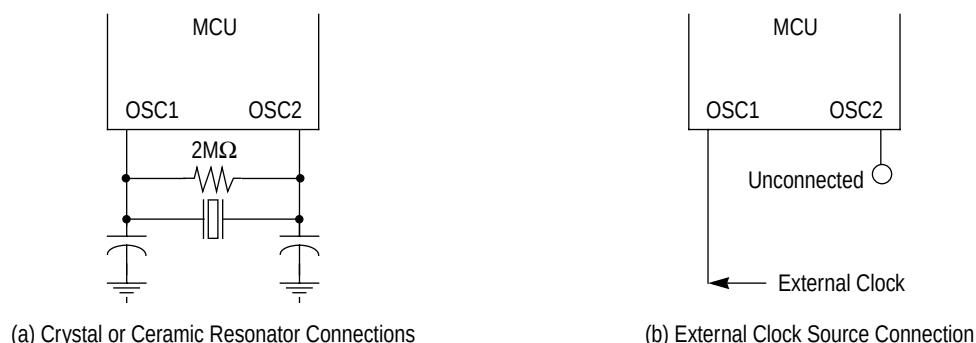

Figure 1-3. Oscillator Connections
1. A crystal as shown in **Figure 1-3(a)**
2. A ceramic resonator as shown in **Figure 1-3(a)**
3. An external clock signal as shown in **Figure 1-3(b)**
The circuit in **Figure 1-3(a)** shows a typical oscillator circuit for an AT-cut, parallel resonant crystal. The crystal manufacturer's recommendations should be followed, as the crystal parameters determine the external component values required to provide maximum stability and reliable start-up. The load capacitance values used in the oscillator circuit design should include all stray capacitances. The crystal and components should be mounted as close as possible to the pins for start-up stabilization and to minimize output distortion. An internal start-up resistor of approximately 2M Ω is provided between OSC1 and OSC2 for the crystal type oscillator as a mask option.
In cost-sensitive applications, a ceramic resonator can be used in place of the crystal. The circuit in **Figure 1-3(a)** can be used for a ceramic resonator. The resonator manufacturer's recommendations should be followed, as the resonator parameters determine the external component values required for maximum stability and reliable starting. The load capacitance values used in the oscillator circuit design should include all stray capacitances. The ceramic resonator and components should be mounted as close as possible to the pins for start-up stabilization and to minimize output distortion. An internal start-up resistor of approximately 2 M Ω is provided between OSC1 and OSC2 for the ceramic resonator type oscillator as a mask option.
An external clock from another CMOS-compatible device can be connected to the OSC1 input, with the OSC2 input not connected, as shown in **Figure 1-3(b)**. This configuration is possible ONLY when the crystal/ceramic resonator mask option is selected.